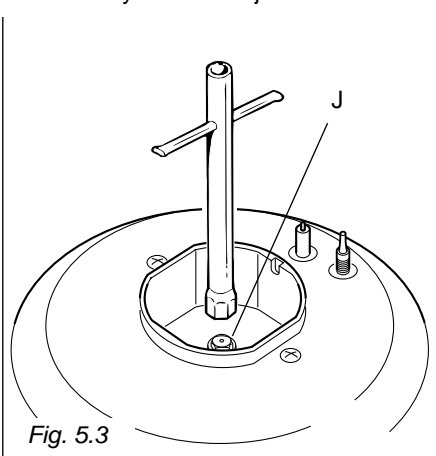

Fig. 5.3
- ✓ Using a wrench substitute the injectors “J” (Fig. 5.3 - 5.4) with those ones suitable for the type of gas for which it is to be used.